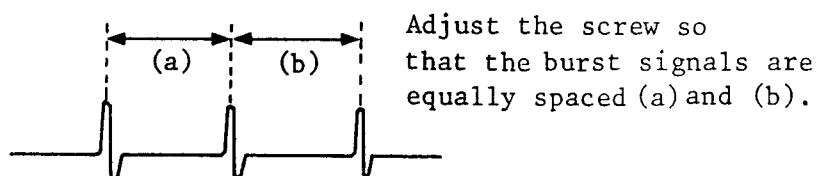

Fig. 3-12
- ⑤ Be sure that the waveform shown in Fig. 3-12 is displayed on the oscilloscope.
- ⑥ If not, adjust the turntable height adjusting screw shown in Fig. 3-9 so that the waveform shall be as illustrated in Fig. 3-12.